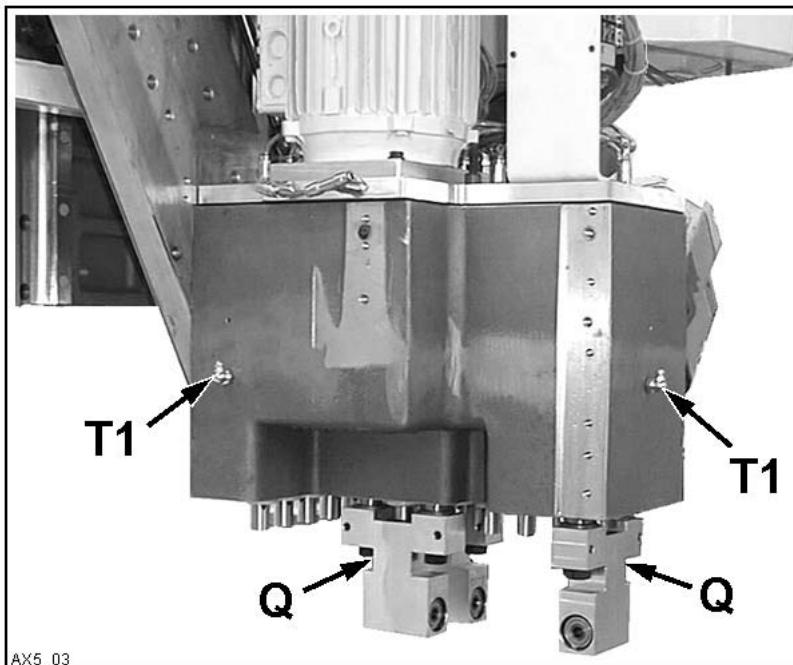

Fig. 13
- Inject approximately 10cm³ of grease (aprox. 14 pumping - Type "KLUBER ISOFLEX NBU15") into each grease nipple T1 (Fig. 13)
- Inject approximately 1cm³ of grease (Type "KLUBER ISOFLEX NBU15") into each grease nipple Q (Fig. 13). Clean away any excess grease.